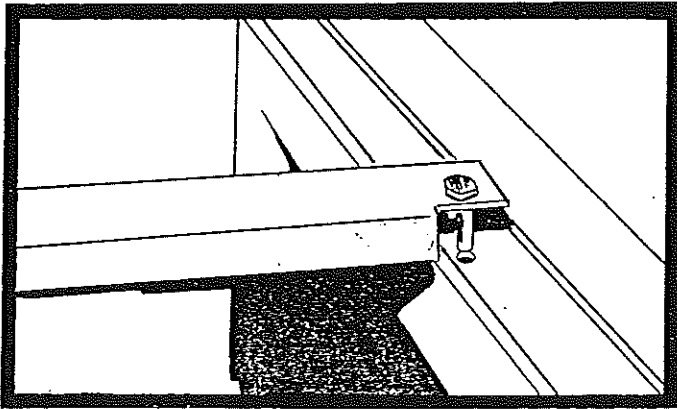

FIGURE 10
17. Remove the two portable bed supports from their stowage location. Standing at the front of the trailer, locate the four support holes on the top edge of the front body rail (two holes on each side). Taking the first support, carefully insert the two pins (located at one end of the support) into the two pilot holes located on the top edge of the front body rail. Place the free end of the bed support tube over the support peg located on the trailer frame. See Figures 10 and 11. Repeat the same procedure for the other support.